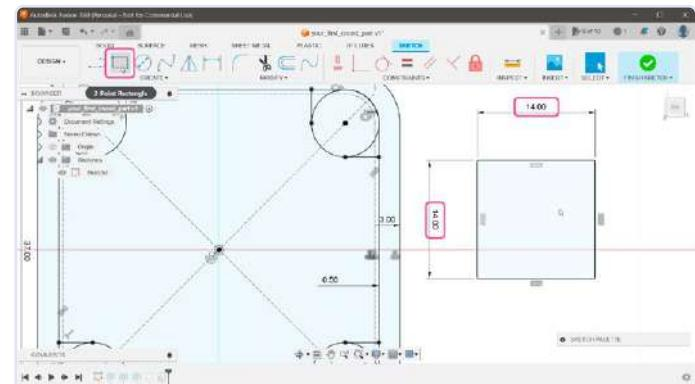

Figure 16: Preparation of the two rectangular holes on the bottom of the enclosure.
- 16) We need two rectangular holes on the bottom of the enclosure to access the connectors on the bottom of the PCB. The connectors are slightly different in size, but a 11x14 mm hole will work for both. We need to count with the wall thickness (3 mm), which sets the hole size to 14x14 mm. For drawing those holes, we can reuse our original sketch. Open it for editing and select the *2-Point Rectangle* tool (**Figure 16**) from the toolbar. Draw a 14x14 mm rectangle anywhere on the canvas.